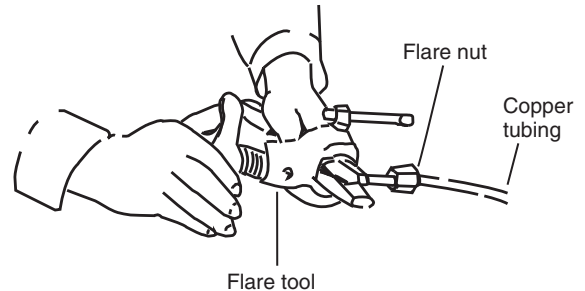

Fig. 5-3
- (3) Remove the flare nut from the unit and be sure to mount it on the copper tube.
- (4) Make a flare at the end of the copper tube with a flare tool. (Fig. 5-3)